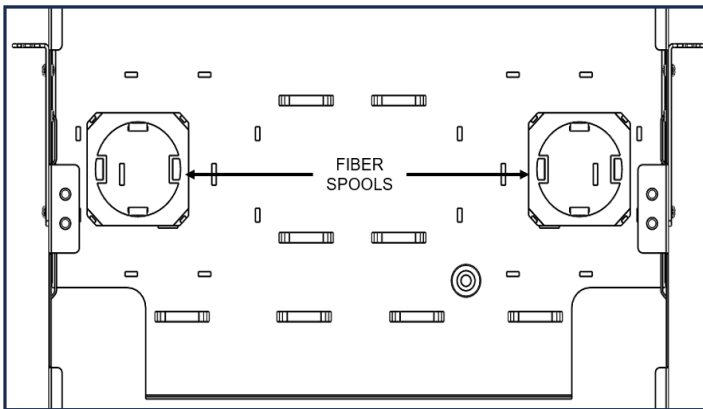
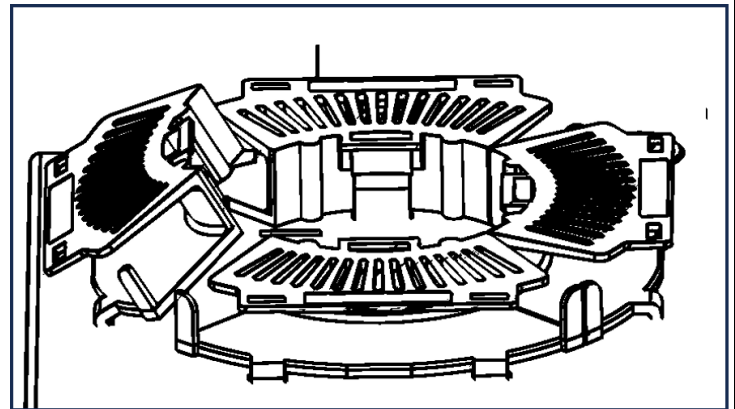

Figure 5a
Figure 5b
The fiber enclosures can support different styles of fiber bend radius control. The 2U & 4U enclosure trays can accept both styles. Figure 5a illustrates the current style and Figure 5b illustrates an alternate style.
6.2) Figure 5a depicts the fiber spools secured to the tray (rear section).